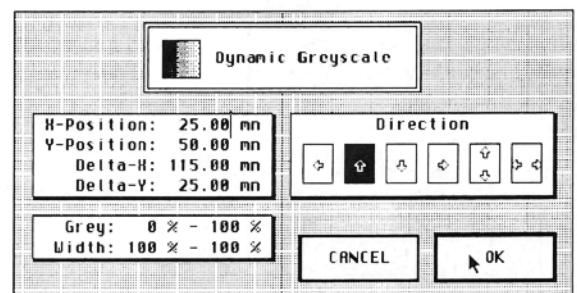

Fig 11. With this dialogue box, you can control both the direction and the ranges of greyscales.
7). Next, click on the Dynamic Grey scale icon, set the direction you wish the grey scale to go from/to (see fig 11) and draw a box around the text. You should then have a graduated grey scale box.